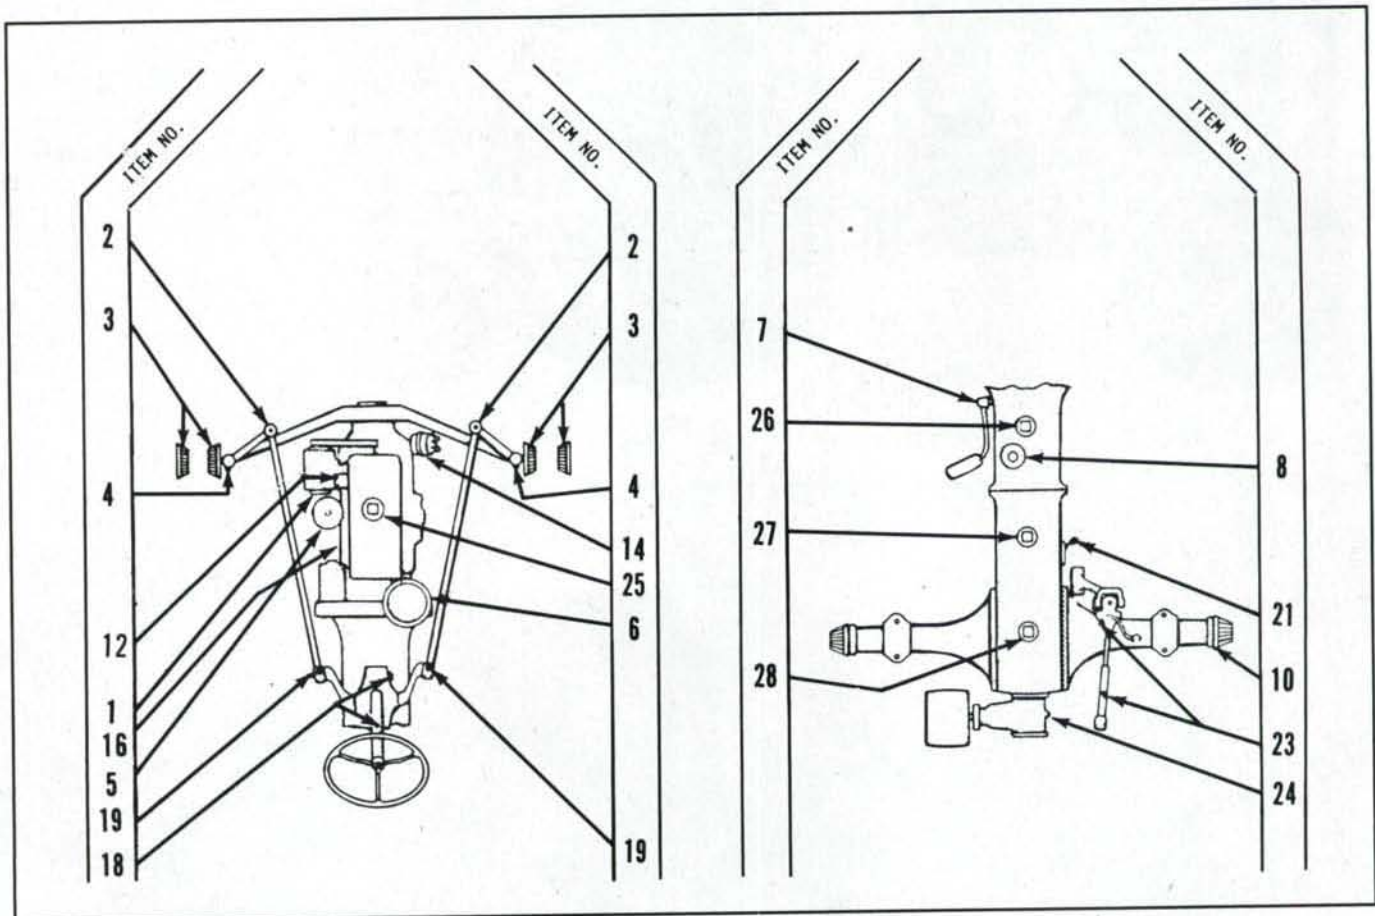
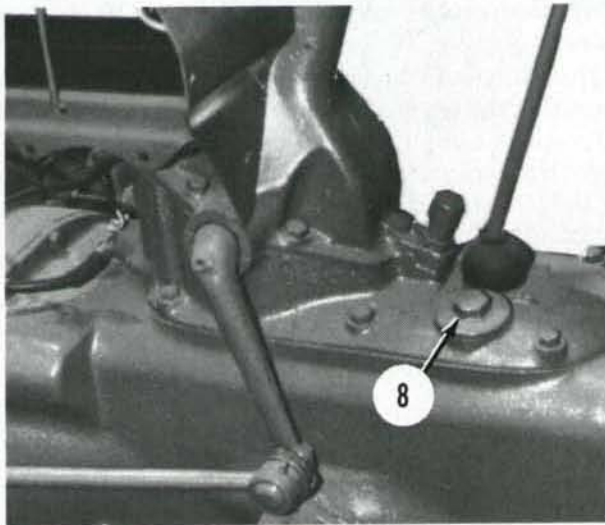

Fig. FO1—Lubrication chart.
Fig. FO4—Transmission oil filler plug (8) is located on the transmission cover (9N shown).
1. Scheduled maintenance tasks and checks should be performed at certain time or hourly intervals as outlined below. The item numbers in parenthesis refer to Fig. FO1.
once a year, whichever comes first. Refer to Fig. FO1 for location of drain plugs (26, 27 and 28) and to Fig. FO4 for location of filler plug (8). The fluid should be warm when it is drained, and all drain plugs should be removed on those models which have a common housing.